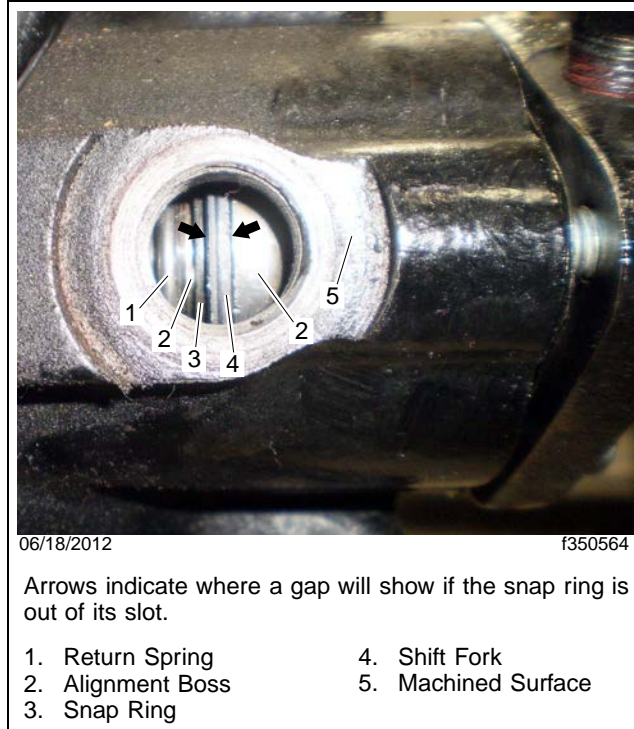

Fig. 2, Checking for a Gap and Measuring Snap Ring Position
- 8.2 Look through the sensor hole and check the shift fork installation for a gap between the the shift fork and the alignment boss or the snap ring. See **Fig. 2**.
- 8.4 Measure from the outside machined surface to the closest point on the snap ring. Record this as measurement 1. See **Fig. 2**.
- 8.5 Measure from the outside machined surface to the closest point on the alignment boss. Record this as measurement 2. See **Fig. 2**.